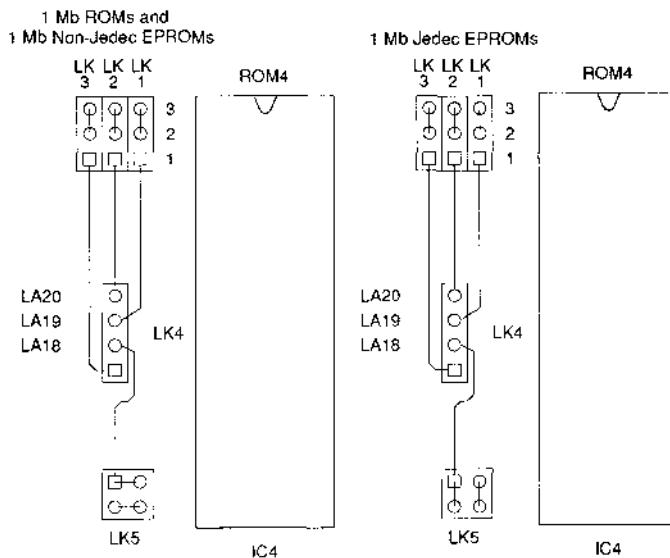

Figure 9 Links for RISC OS 2, 1 Mb ROMS
- 8 If you have re-used the original **1Mb** ROMs you need to fit the plastic shunts to the upgrade daughter board, as shown in Figure 9 overleaf. Remove the shunts from LK12 on the mother board.